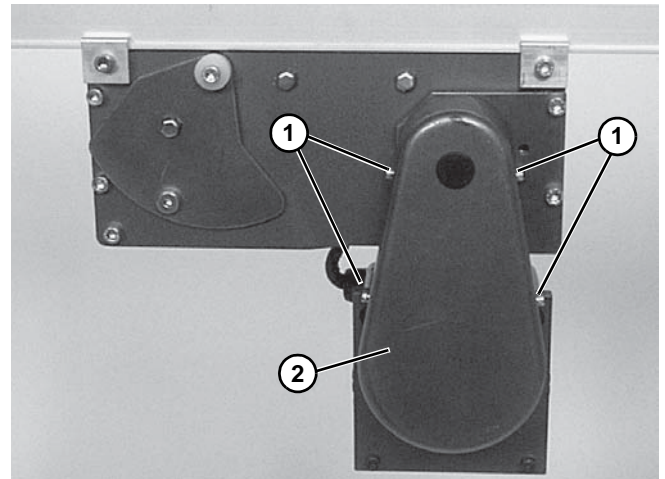

Figure 37
1. Remove cover screws (**Figure 37, item 1**) and remove cover (**Figure 37, item 2**).
Figure 37 shows a vertically mounted gearmotor. Horizontally mounted gearmotor is similar.